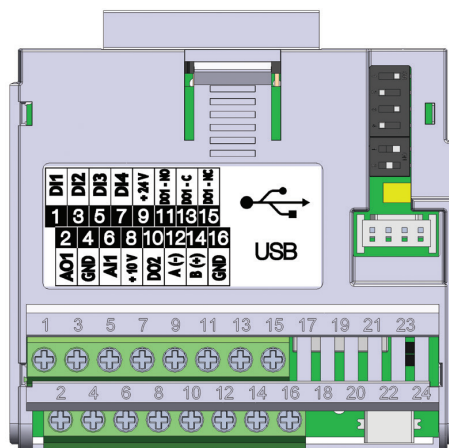

Figure 19.3: Plug-in module CFW500-CUSB
The CFW500-CUSB plug-in module has Serial (1) interface through RS-485 port at terminals 12 (A-) and 14 (B+), as well as the Serial (2) interface through USB port at standard connector mini USB (mini B), see Figure 19.3 on page 19-1.